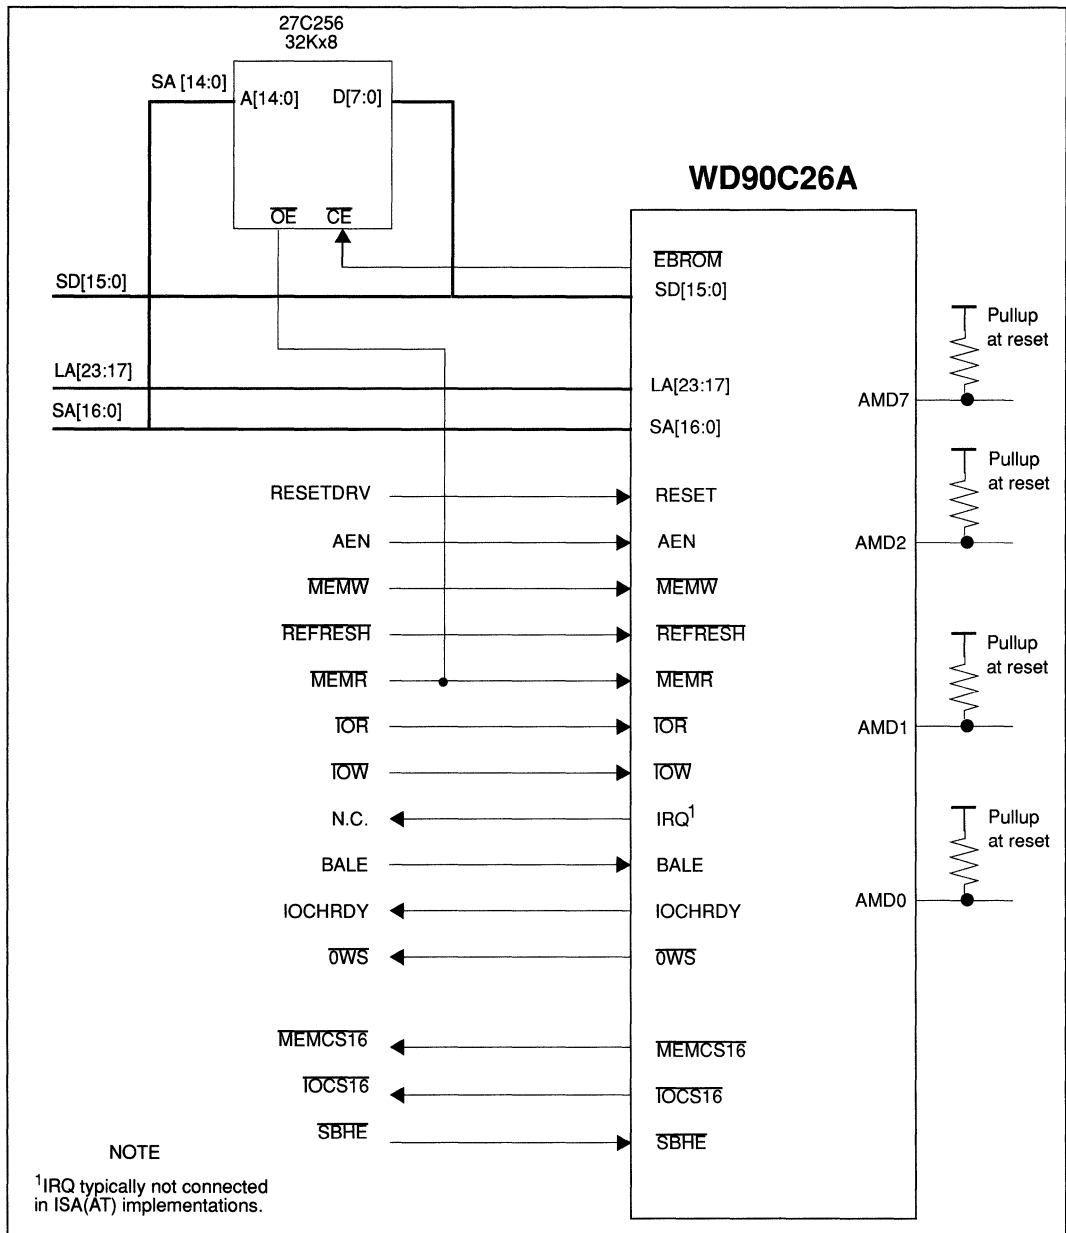

FIGURE 6-9 16-BIT ISA BUS (AT) INTERFACE
- 16-Bit ISA Bus (AT) Interface with 8-Bit BIOS, Figure 6-9.
Figure 6-9 shows a typical 16-bit ISA Bus (AT) interface.